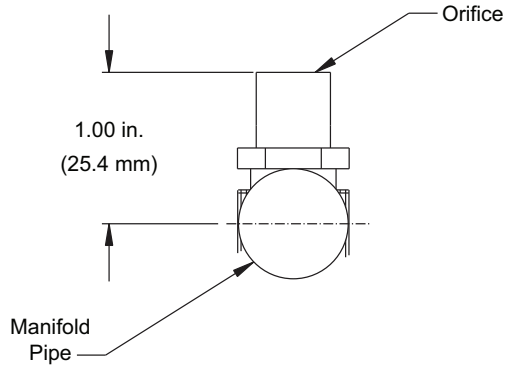

Fig. 50 — Orifice Projection
Refer to Fig. 50 for maximum projection dimension for orifice face to manifold tube.
5. If factory orifice has been removed, check that each orifice is tight at its threads into the manifold pipe and that orifice projection does not exceed maximum value. (See Fig. 50.)